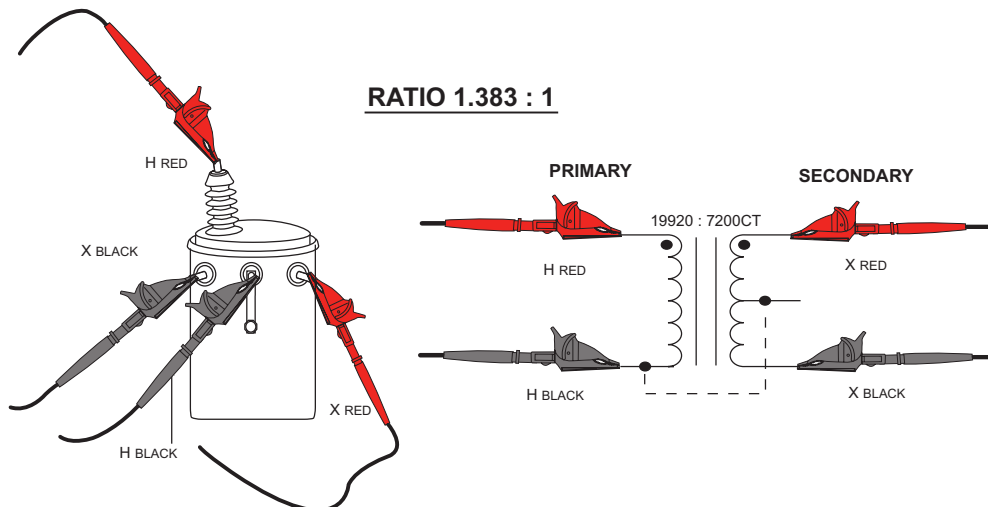

Figure 5-2
1. Connect the Primary (H) and Secondary (X) cables to the appropriate connectors on the DTR[®] 8510 and the transformer under test (see Fig. 5-2).